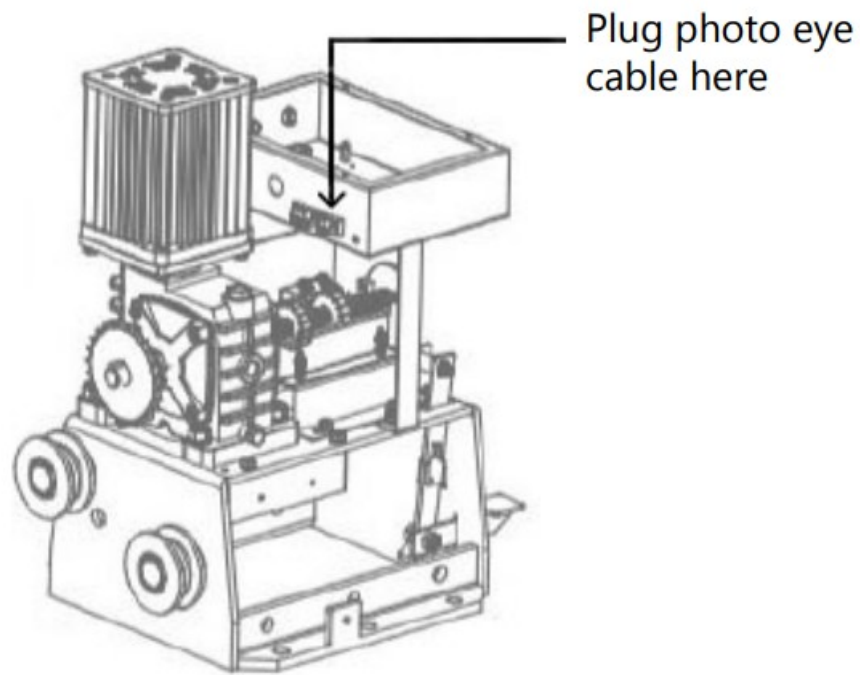

Figure 11
1. Plug the photo eye cable to the back of the gate opener, behind the circuit board. Figure 11